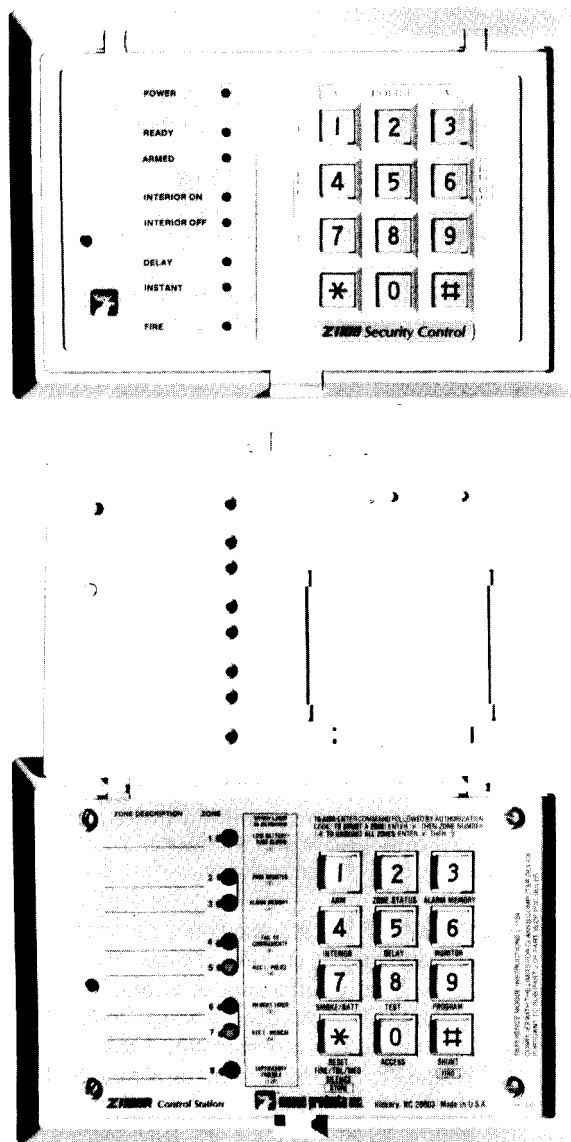

Figure 4-2 Control Station LEDs
The Z1100R Control Station has eight (8) LED's to indicate the status and program values of the system. The eight (8) LED display is capable of displaying 3 "pages" or modes of LED status. See Figure 4-2.